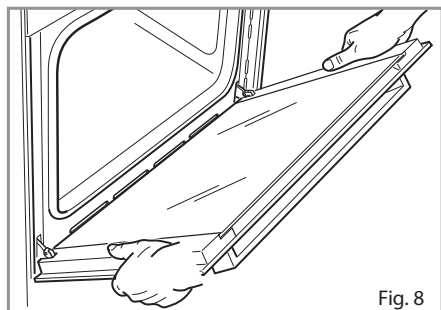

Fig. 8
- Hold the door as shown in fig. 8.